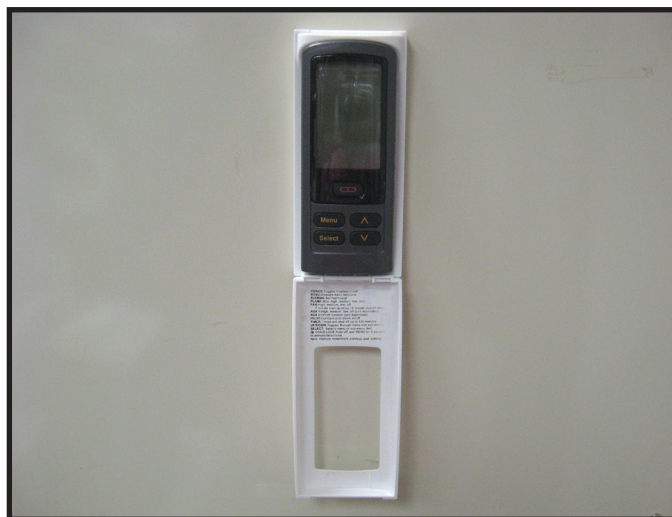

Figure 11.3. Remote in Housing
4. Place remote control inside housing. See Figure 11.3.